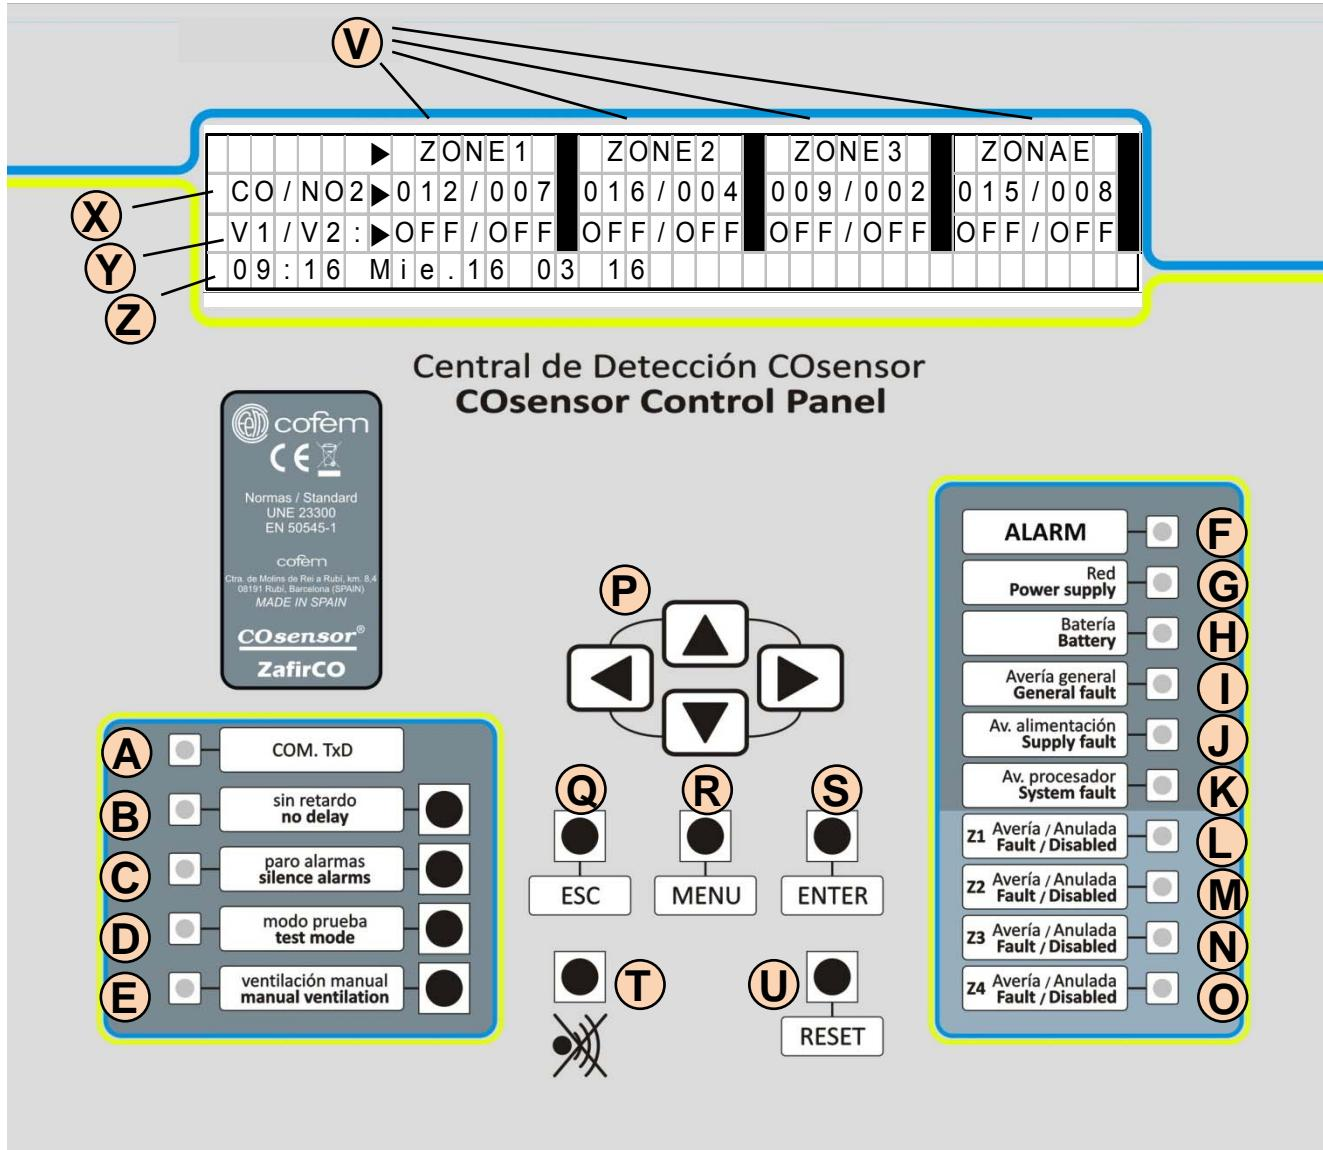

Figure 10: Control panel view
9. The control unit must be in working condition with the power supply led on (letter G in Figure 10).
If an alarm occurs, the control panel lights red alarm Led (F in Figure 10) and the buzzer sounds.
In case of failure of power, amber led GENERAL FAULT and SUPPLY FAULT (I and J in Figure 10) will light, sound the buzzer and show the following message.